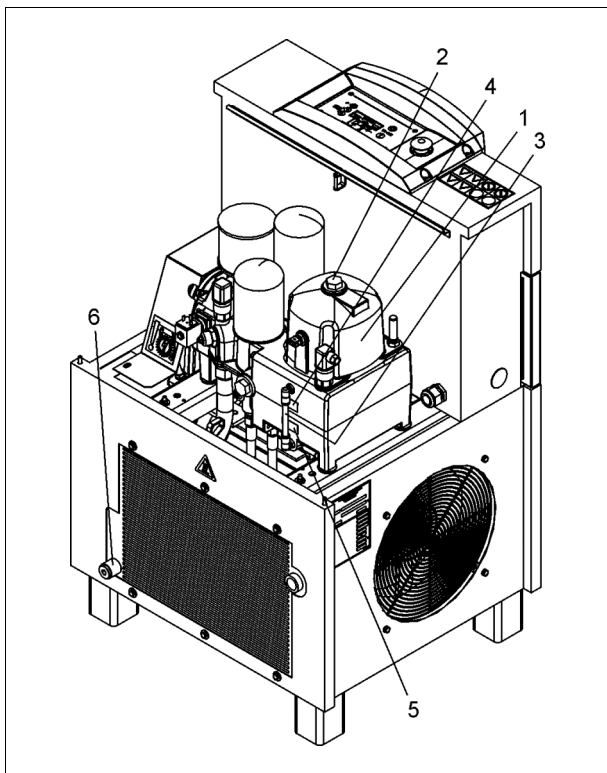

Fig. 17
- Slowly open the oil filler cap (- 2 - Fig. 17), to depressurize the screw compressor by releasing any residual pressure in the unit
- Open the oil drain (- 6 - Fig. 17) for the pressure reservoir and the oil cooler
- Fill in oil up to the marking "maximum oil level" (- 4 - Fig. 17) (approx. 5 litres)
- The oil level must be between the maximum level (- 4 - Fig. 17) and minimum level (- 5 - Fig. 17) marked on the oil reservoir.